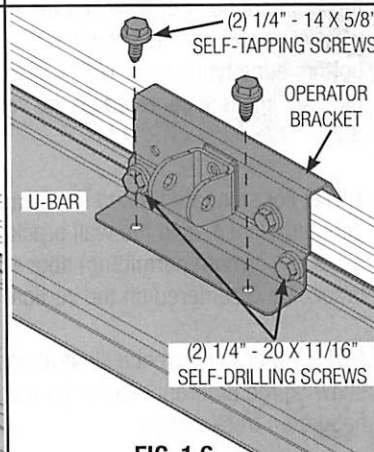

FIG. 1.6
Then attach (2) 1/4" - 14 x 5/8" self-tapping screws to the operator bracket, as shown in FIG. 1.6. Remove vice clamps.
NOTE: If you have a 9100 door, you can use two of the 1/4" - 20 x 11/16" self-drilling screw used to attach the u-bar instead of the 1/4" - 14 x 5/8" self-tapping screw when attaching operator bracket to u-bar, as shown in FIG. 1.6.